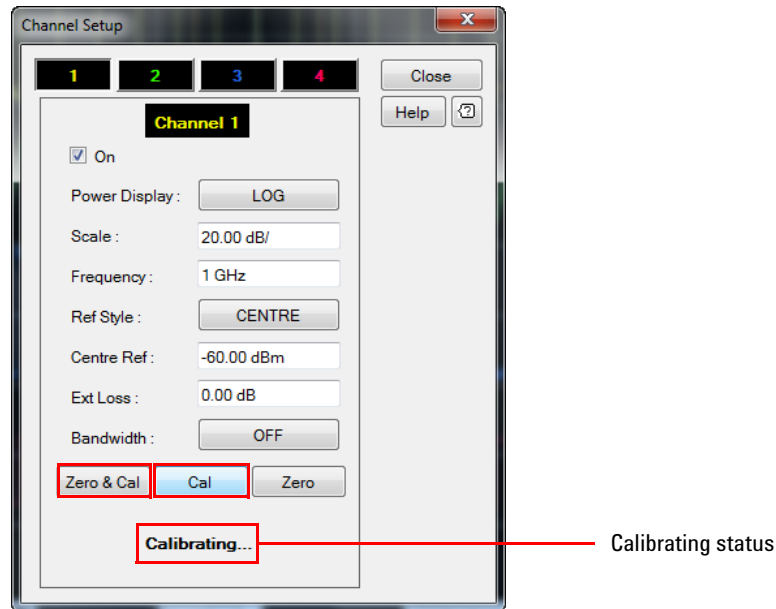

Figure 2-95 Cal and Zero & Cal buttons on the Channel Setup dialog
- 4 The 8990B also allows you to manually perform calibration of the sensor from the Channel Setup dialog as shown in Figure 2-95.
- 5 You can also perform zeroing and calibration of the sensor with the **Zero & Cal** button as shown in Figure 2-95. Refer to “Accessing the Channel Setup” on page 28 for more information on the Channel Setup dialog.